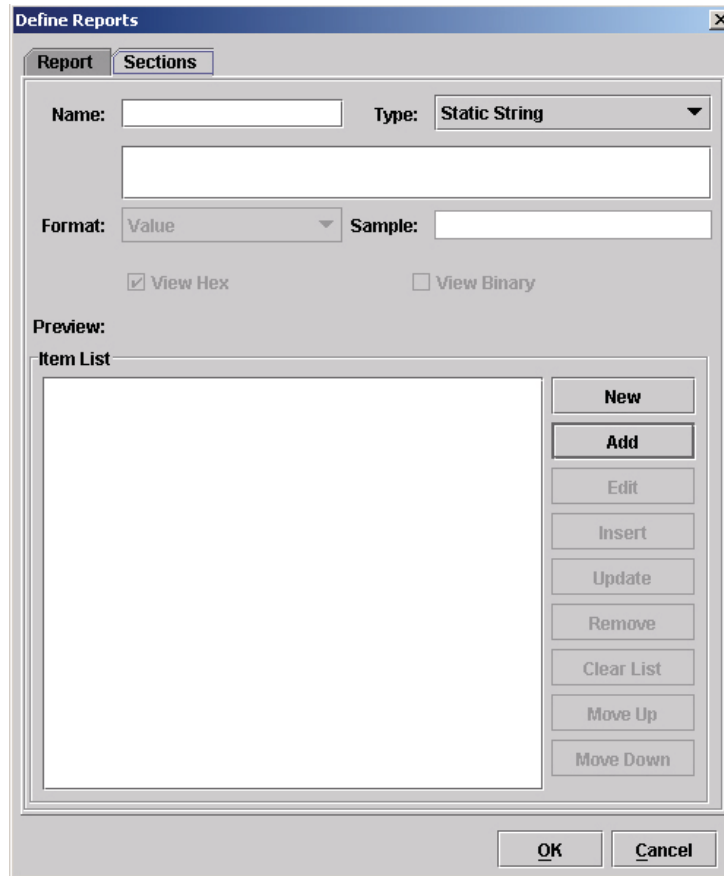

Figure 211 The Sections Tab of the Define Reports Dialog Box
2. Click the **Sections** tab (Figure 211). We will use this tab to define all sections needed to make the full report. The printer operator panel LCD has a maximum of 16 characters available per line to display the message.